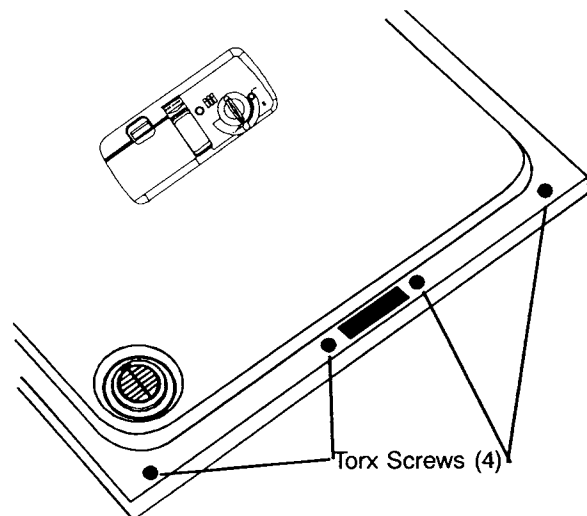

Fig. 22
2. Remove the four (4) Torx-head screws at the top of the stainless steel inner door panel. (Fig. 22)